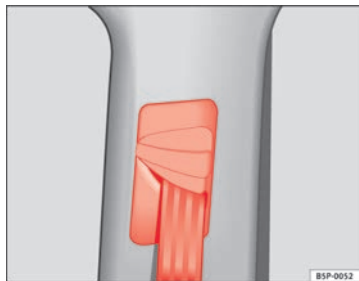

Fig. 17 Location of the belt height adjuster
- Press the upper part of the shoulder belt guide and hold it in this position ⇒ **fig. 17**.